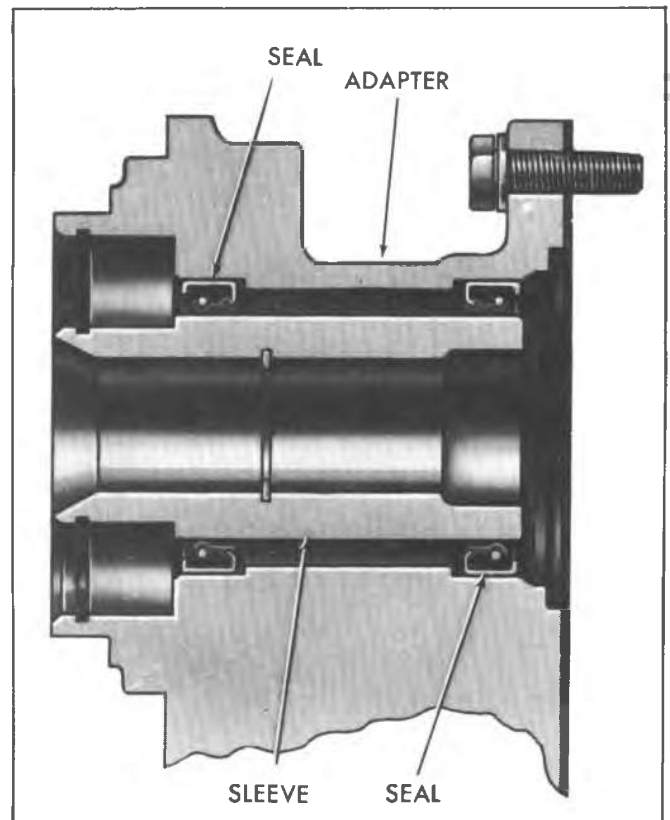

Fig. 7B-4T--Automatic Transmission Adapter Used With Model 205 (Part Time) Transfer Case
1. Install new seals in adapter using Tool J-7137 and J-8092 as shown in Figure 7B-2T.